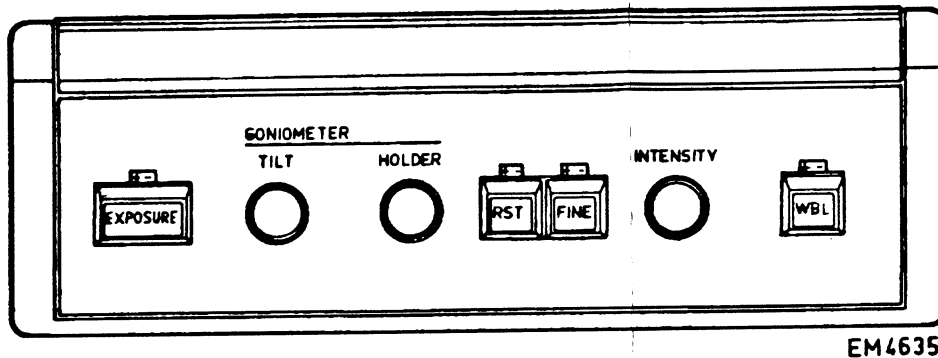

Fig. 7.1
7.1.1 Left-hand control panel (see Fig. 7.1)